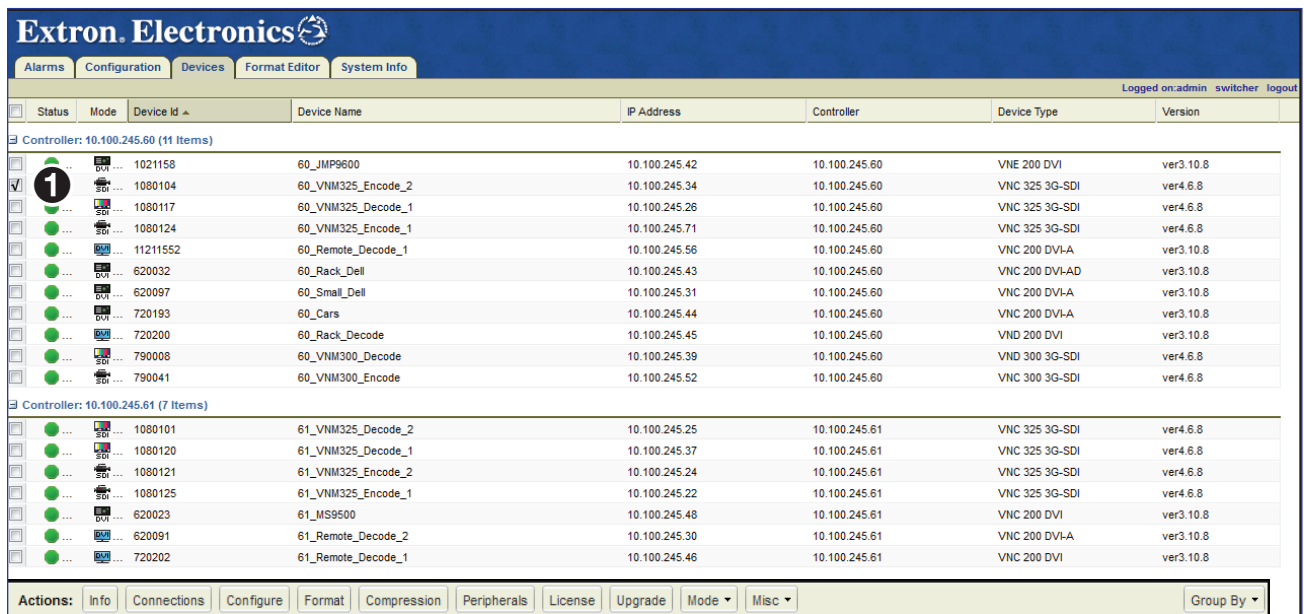

Figure 27. Encoder Actions Bar
Click a device on the **Devices** page (see figure 27, ❶) to open its action bar. Click an action bar menu item to open a dialog box with configuration options for its intended operation.
The VNM 325 is selected in the example in figure 27 (outlined in red). Notice the check in the device selection box. When a device is selected, the **Actions** bar at the bottom of the page enables all options, connections, and configuration for the device.